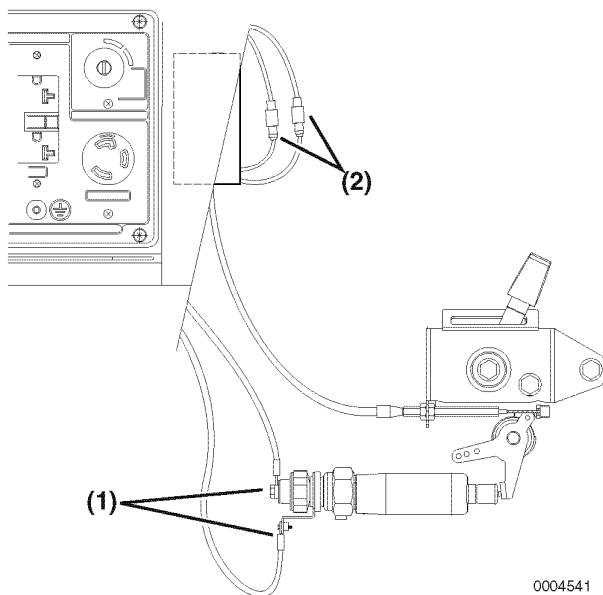

Figure 7-40
3. Disconnect the oil pressure sending unit wires (**Figure 7-40, (1)**) and all ground wires from engine block to frame.
4. Disconnect the two bullet connectors (**Figure 7-40, (2)**) from the stop solenoid. One red lead and one blue lead.